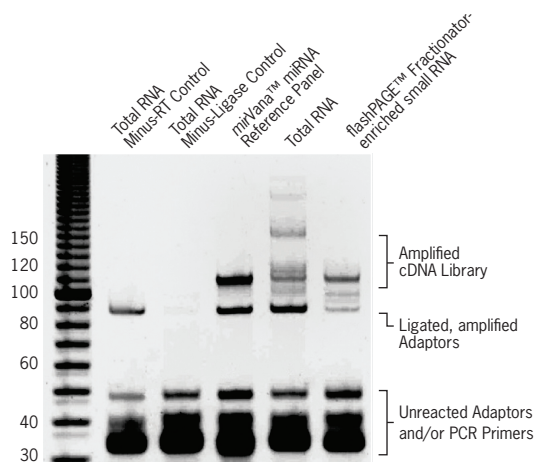

Figure 3 SOLiD™ Small RNA Expression Kit PCR Products
4. Evaluate the PCR products. Figure 3 on page 14 shows results from reactions from various types of input RNA that were amplified using an appropriate number of PCR cycles. Expected results are as follows:
- Note that higher molecular weight bands at approximately 150 and 200 bp (derived from tRNA and larger species) are expected from reactions using total RNA as input, whereas these larger products are not expected from reactions using size-selected small RNA as input (see Figure 3).